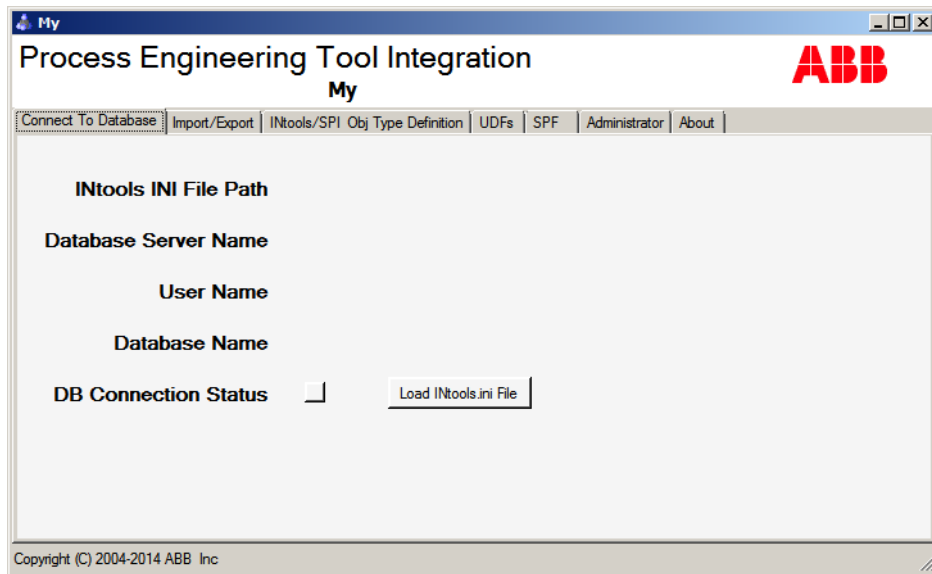

Figure 53. Standalone Application
2. Click **Load INtools.ini File** (Figure 53).
Use the **Import/Export** tab (see Figure 53) to export the INtools data to a CAEX file, or import data from a CAEX file to update the INtools database.
Use the **INtools/SPI Obj Type Definition** tab (see Figure 53) to specify the criterion for establishing the various INtools/SPI class types to be used by the software. This is done by selecting the appropriate INtools/SPI Component property as the INtools/SPI Object Type from the drop-down list box.
The **INtools/SPI Obj Type Definition** tab (see Figure 53) can also be used to override the INtools/SPI Class definition of any tag in the INtools/SPI database on an instance basis. The user can load the INtools/SPI tag information into the grid and then override the 800xA Object Type for any tag to something other than the default INtools/SPI Object Type. The software will then use the updated Object Type when generating the CAEX information for those tags. This will allow the user to create different 800xA Object Types for tags that have the same INtools/SPI
Use the **User Defined Fields** tab (see Figure 53) to specify the inclusion of various INtools/SPI User Defined Fields (UDFs) into the information retrieved for Instruments and Panels. The UDFs appear as additional properties of the corresponding INtools/SPI Object Types and can be mapped to the appropriate 800xA Object properties for data synchronization.